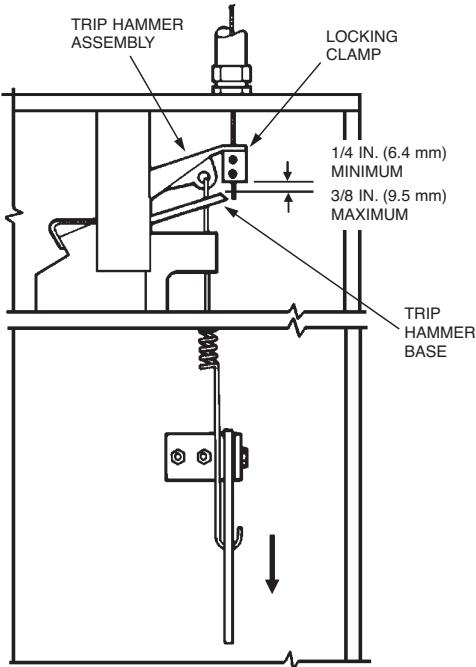

FIGURE 18
- 31. Inspect the base of the wire rope locking clamp to make certain that there is a minimum of 1/4 in. (6.4 mm) and a maximum of 3/8 in. (9.5 mm) clearance between the base of the trip hammer locking clamp assembly and the cable lever assembly. See Figure 18.